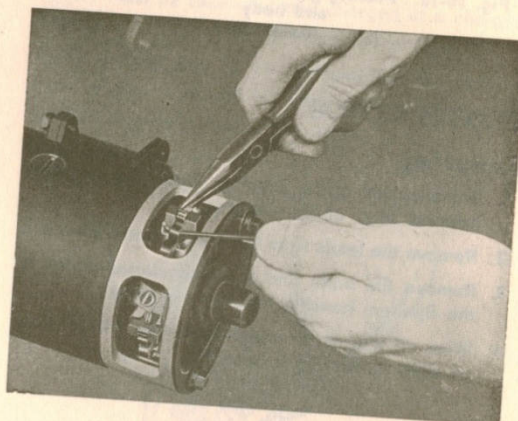

Fig. 10-13. Removing the brushes
2. Lift the brush springs and pull up the brushes, Fig. 10-13.